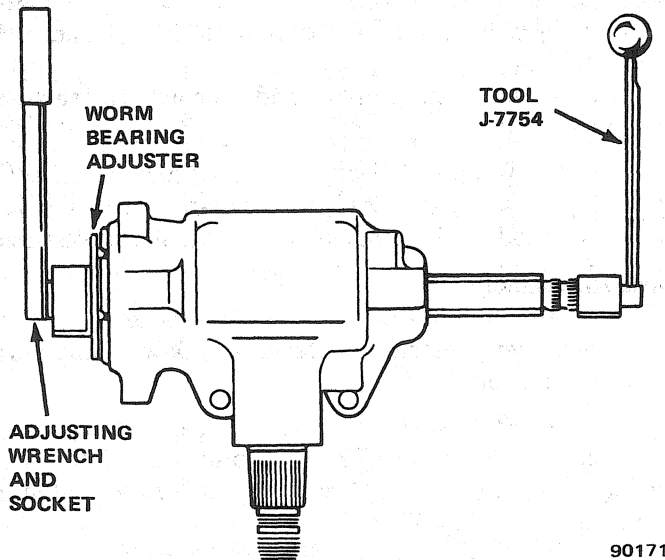

Fig. 2K-16 Adjusting Worm Bearing Preload Torque
- (1) Tighten worm bearing adjuster until it bottoms, then back off adjuster 1/4 turn.
- (2) Install socket and Torque Wrench J-7754 on splined end of wormshaft (fig. 2K-16).